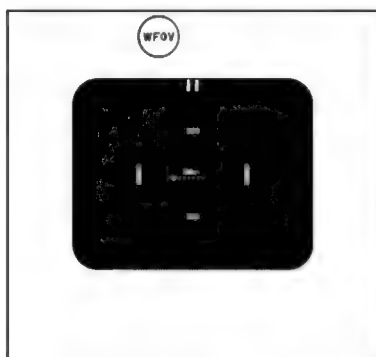

Figure E-49. Image adjustment for detecting hot stationary targets.
e. **Hot Stationary Targets.** Hot stationary targets are the easiest to detect. When a stationary target has hot signatures, the gunner can assume there has been recent activity or solar heating. To find hot signatures easily, adjust contrast up and brightness down so that only the hottest signatures appear in the FOV, and the rest of the scene is black (Figure E-49). When the gunner thinks he has detected a target, he adjusts the contrast and brightness so he can see the rest of the target's features. Depending on the target's exposure and aspect, some of the signatures to look for include the suspension system, engine compartment/exhaust, gun tube or barrel, and an indirect signature called backlighting.